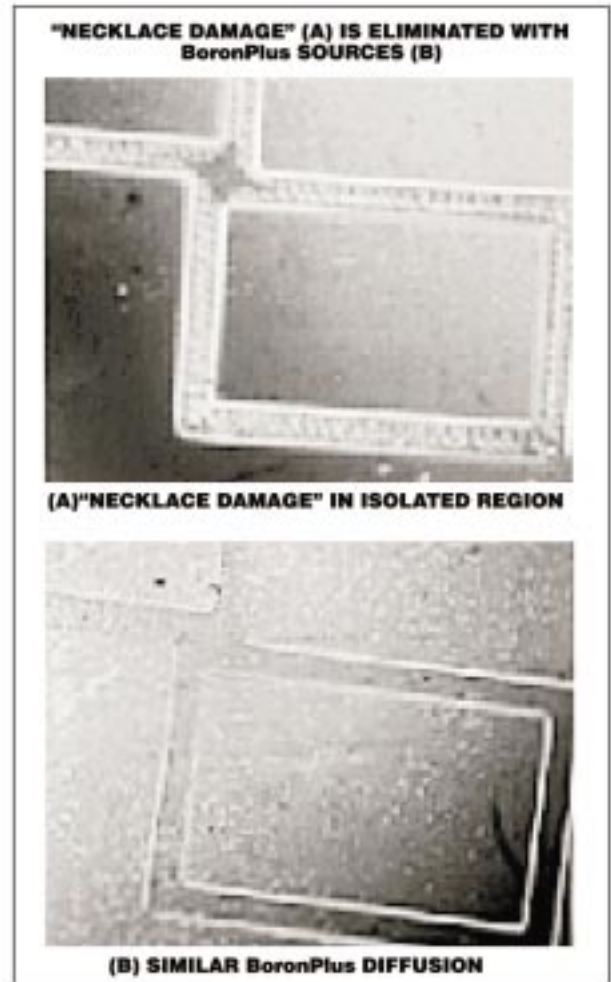

Figure 7(A and B)
Certain types of silicon surface damage have been reduced when BoronPlus sources are used in place of other types of dopant materials. Typical "necklace damage" shown in Figure 7(A) was eliminated as shown in Figure 7(B) when BoronPlus sources were used in a similar 1100°C isolation predeposition cycle.